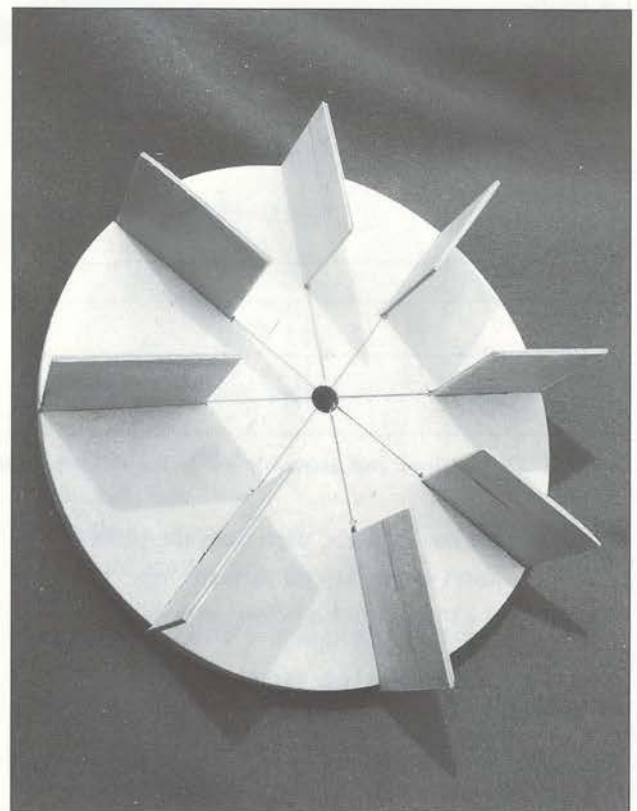

Fig 24.4 Eight paddles are glued into slots in the sand wheel disc.
Saw to shape the disc (1) and eight paddles (3) that form the sand wheel (see Fig 24.2). Cut out the slots in the disc to the dimensions shown on the plan and glue the eight paddles into these slots. The paddles should be flush with the back of the disc. Fig 24.4 shows the paddles glued into the slots.